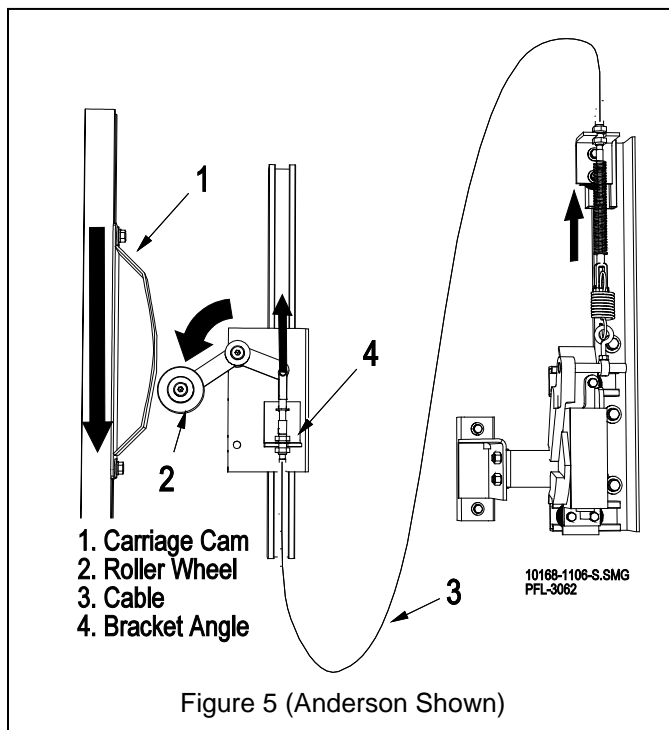

Figure 5 (Anderson Shown)
1. Adjust the carriage cam to allow  $\pm \frac{3}{4}$ " cable travel (2" maximum cable travel). Make sure the roller wheel clears the edge of the cam. Center the cable travel at the center of the full cable stroke by positioning the cable in the bracket angle. **See Figure 5.**